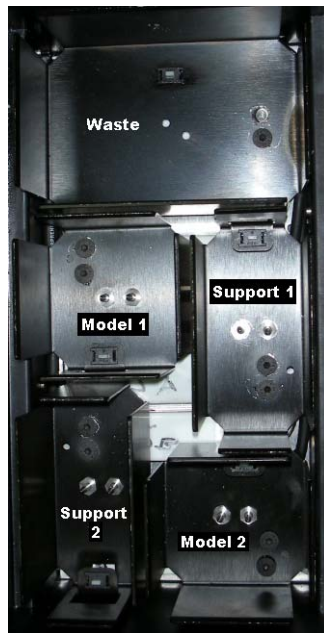

Figure 7-4: Printing-materials drawer
3. Load model and support cartridges into their respective compartments (see figure 7-4).